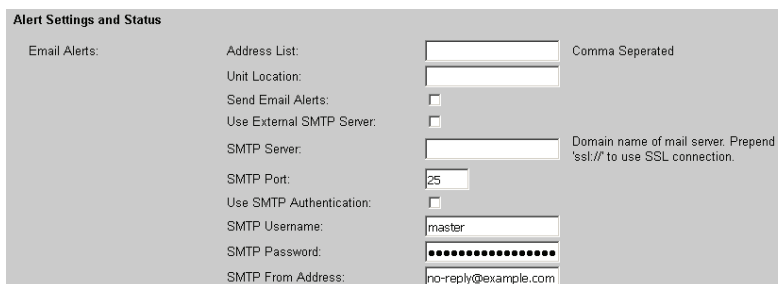

Figure 11-22: Email Alerts Section
In the 'Alerts' section, clicking the **Alert Settings** link opens the **Alert Settings and Status** page, see Figure 11-22.
All Devices can provide email alerts from a number of detected error events. The email configuration is done in the **Email Alerts** section, Figure 11-22. Each alert may be enabled individually by clicking the associated **Alert Enables** check box, Figure 11-25. After configuration changes, click the **Save Alert Settings** button, see Figure 11-25.
**Table 11.14a: Email Alerts Configuration (See Figure 11-22)**